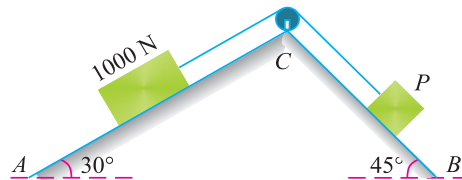

Fig. 16.19.
**Example 16.9.** A weight of 1000 N resting over a smooth surface inclined at  $30^\circ$  with the horizontal, is supported by an effort ( $P$ ) resting on a smooth surface inclined at  $45^\circ$  with the horizontal as shown in Fig. 16.19.